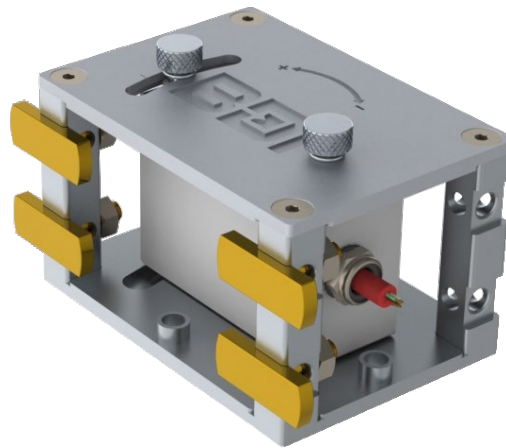

Figure 9: Mounting Tabs Attached for Bottom Mounting
1. Place 4 tabs in mounting holes (in this case, the four bottom holes as shown in Figure 9) and tighten the 1/4-20 (or M6) nuts to approximately 40 in-lbs (4.5 Nm). Note that the Top, Bottom, and End Mountings have machined slots to hold the tabs. The back mount does not have machined slots so a vise grip (or similar tool) will be needed to hold the tab in place while tightening.